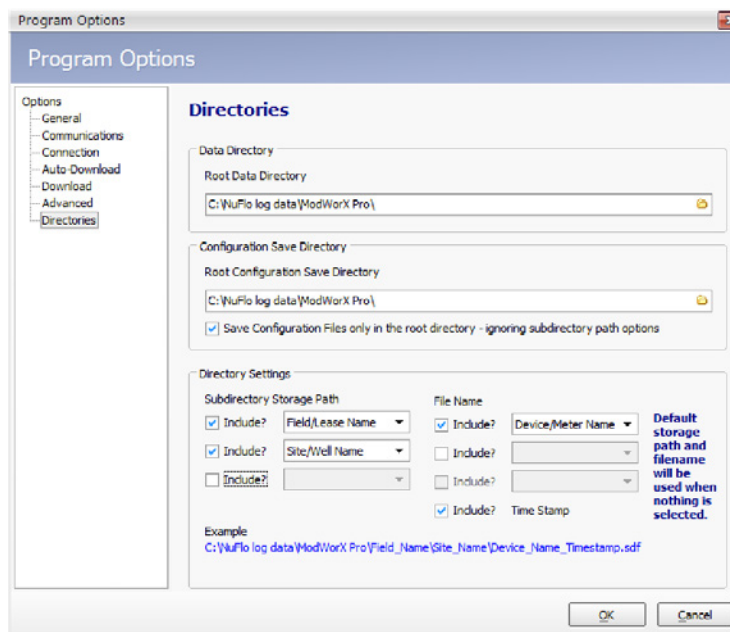

Figure A.24
2. When the Program Options dialog opens, click the **Directories** option from the list at the left side of the screen (Figure A.24, page A-23).